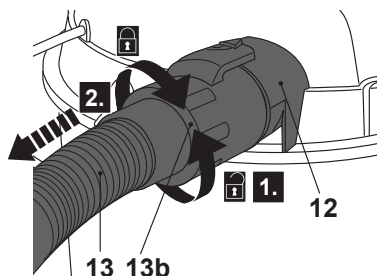

Fig. 13
- > Rotate the hose connector (13b) anticlockwise and pull it from the air outlet (12) to disconnect the hose (13) after use (Fig. 13).